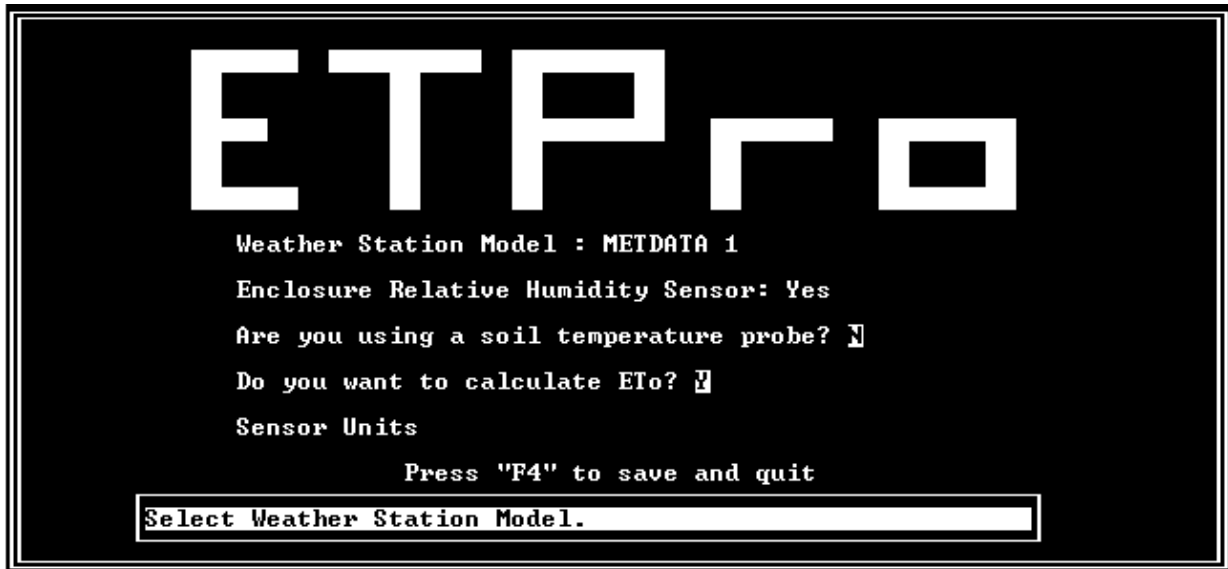

FIGURE 3. Program Development
- The next window should appear similar to Figure 3. The default settings are as follows with alternate selection in parenthesis:
8. Once all the sensor models and units have been entered, select "Done" to go back to the first ETPro program development screen (Figure 3). Press the <F4> key to create the weather station program as well as several other files used by ETPro. Depending on the computer, it might take several minutes for this part of program creation to finish.